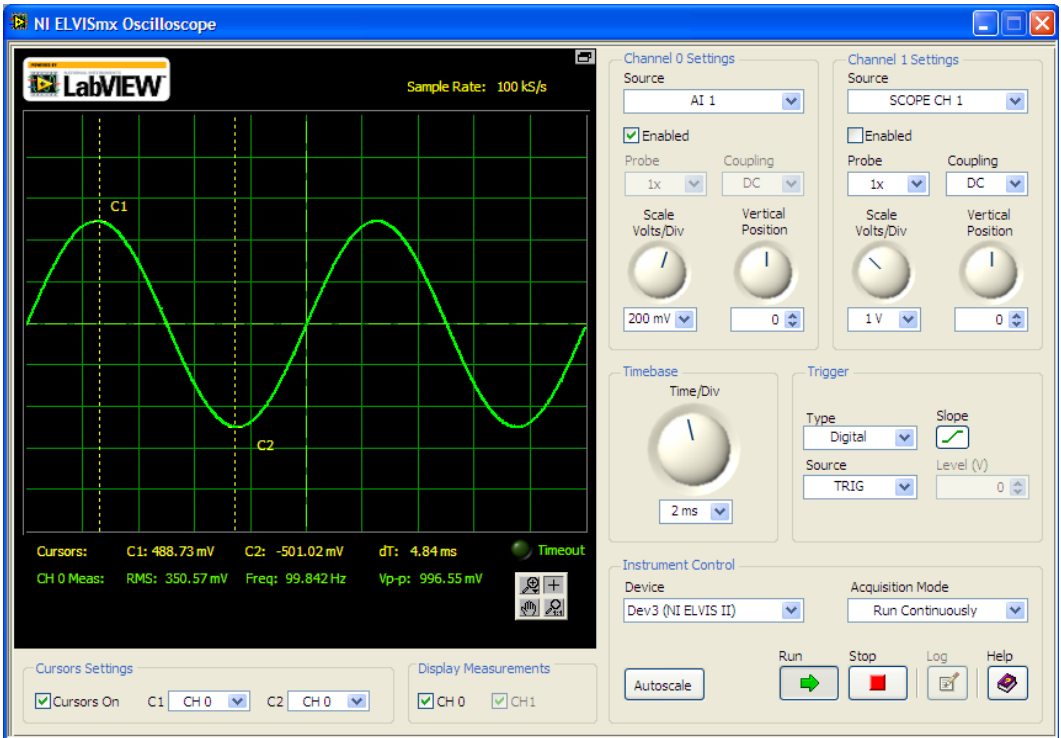

Fig. 15. NI Elvis Oscilloscope showing the input waveform on Channel 0.
10. This input signal originates from FUNC_OUT. The corresponding SYNC signal is TRIG. In TRIGGER section, select TRIG option. The output should now appear as shown in Fig. 15. This is the input signal for our RC circuit.